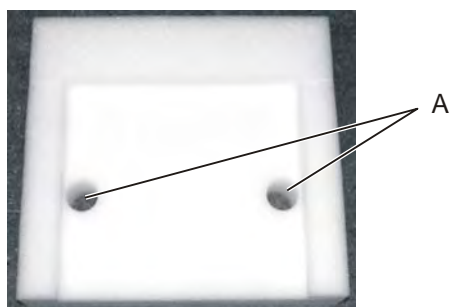

Figure 27: Shock absorbing buffers
The base pallet has two shock absorbing buffers (see Figure 27). The laser device feet are placed in the locating holes (A) so that the laser device is secured in position when the rigid packaging is closed.